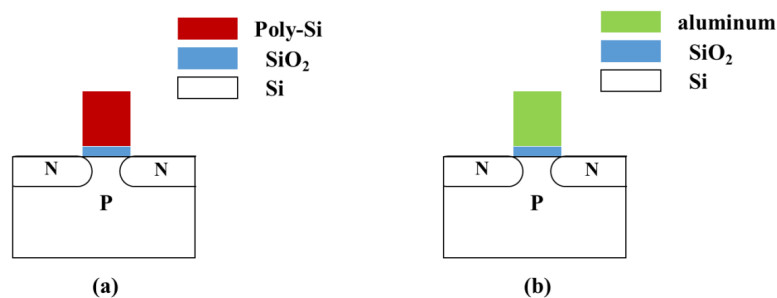

Figure 2: Gate Last and Gate First process flows
2. Please draw a process flow of NMOS transistors with Polysilicon as gate and Al as gate. The process flows are different. The process with polysilicon is self-aligned. When Al is used as gate, the gate oxide formation is the last step as it cannot withstand high temperatures. The final cross sections are depicted in Fig.2